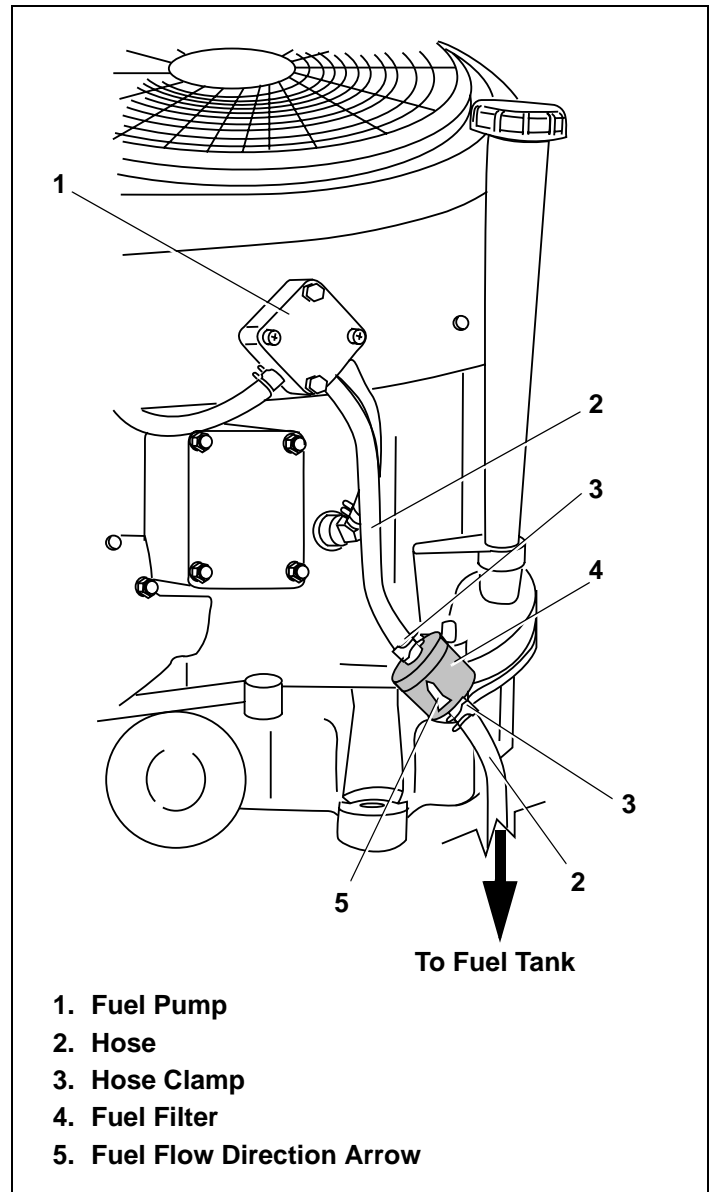

Figure 18. Replacing Fuel Filter
1. Remove hose clamp on hose. See Figure 18.